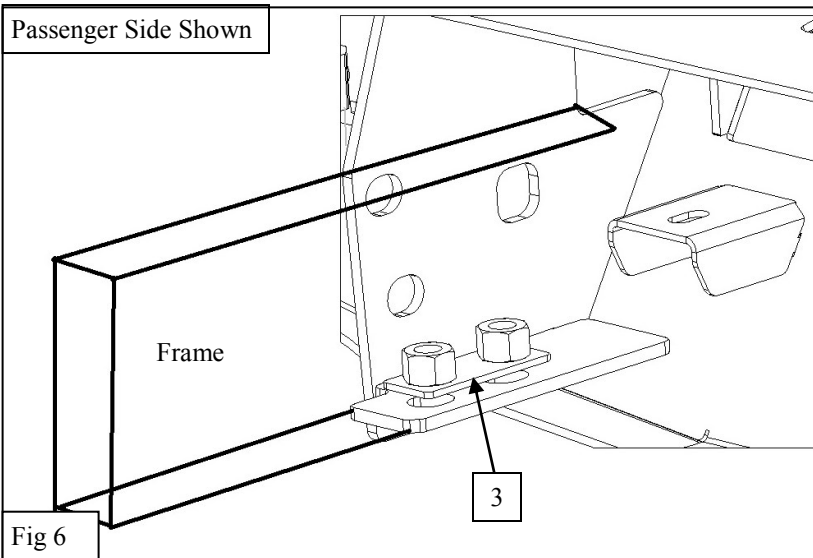

Fig 6
7. Slide the M14 Nut Plate (3) into the frame. Then, lift the WJ2 Rear Bumper Assembly (1) onto the frame Rails. See **Figure 6**.
7. The Tailgate Mount (6) will attach to the tailgate using the factory tire carrier mounting holes. See Figure 6.